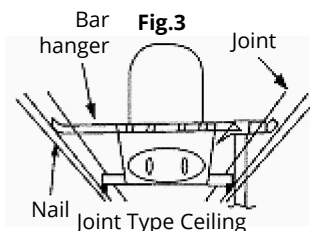

Fig.3
1. Joists type ceilings — extend bar hangers to fit between joist and position fixture temporarily by hammering nail on bars into the joists. Hangers should be leveled with bottom of joists (see Fig.3)